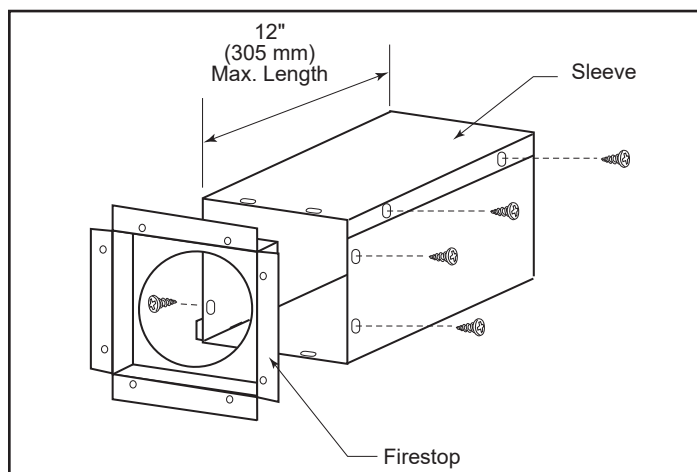

Figure 23 - Assemble the wall sleeve and firestop.
2. Measure the wall thickness and cut the wall sleeve sections to proper length (MAXIMUM 12"). Assemble the sleeve with the #8 sheet metal screws supplied. Attach the firestop plate to the sleeve end with the holes. (Figure 23) **NOTE:** The wall sleeve is required in combustible walls only.
3. Install the Wall Firestop/Sleeve assembly into the wall cutout and fasten the firestop to the wall cutout framing members. (Figure 23)